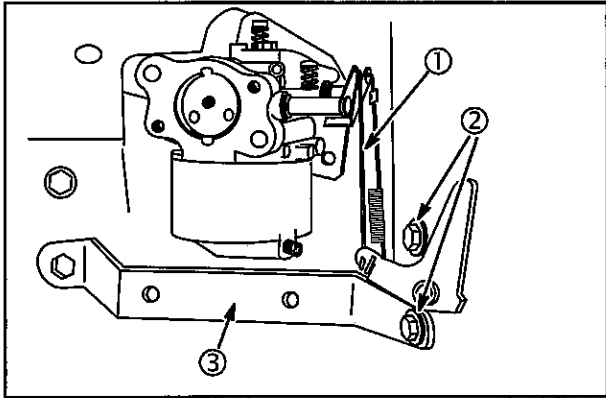

Fig. 9
2. Remove two screws (2) and choke control bracket, **Fig. 9**.
3. Disconnect choke link (1) from carburetor.
NOTE: If engine is equipped with anti-afterfire solenoid, air cleaner bracket (3) must be removed **BEFORE** removing carburetor, **Fig. 9**.